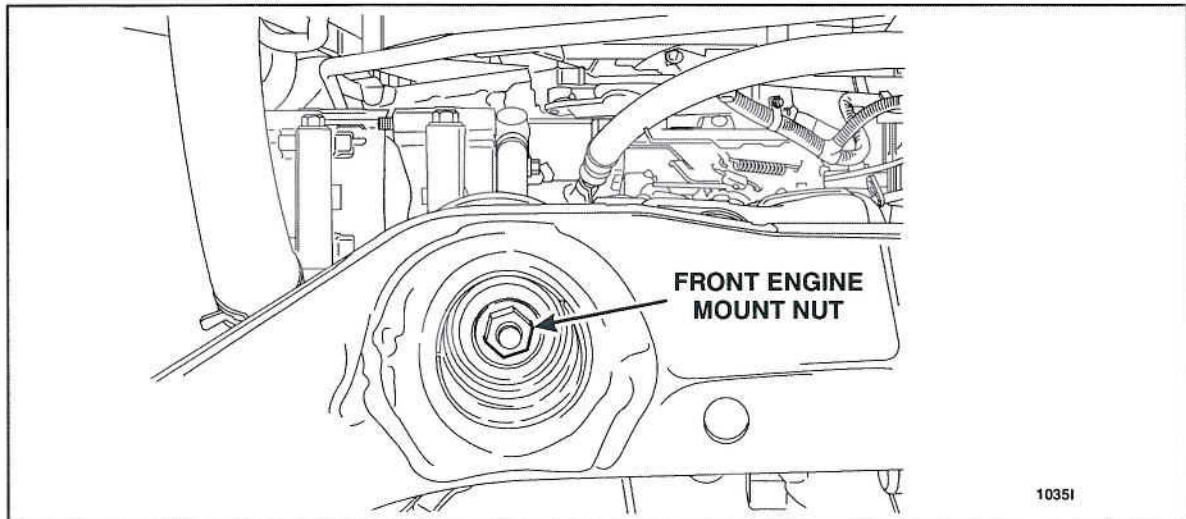

FIGURE 15
35. Remove the front engine mount nut. See Figure 15.